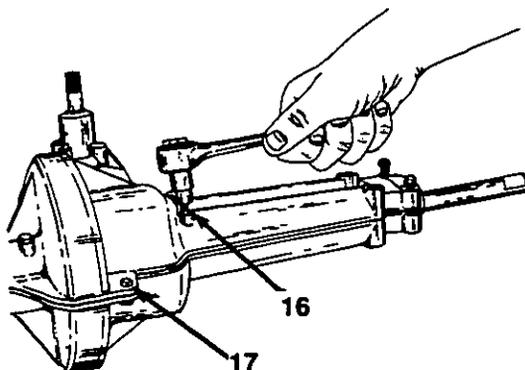

FIGURE 8.
3. Remove four $\frac{1}{4}$ -20 x 1.75" long bolts from housing, located at the center of transaxle. See figure 8.
4. Remove one hex bolt $\frac{1}{4}$ -20 x .88" long and hex nut $\frac{1}{4}$ -20 thread at rear of transaxle housing. See figure 8.